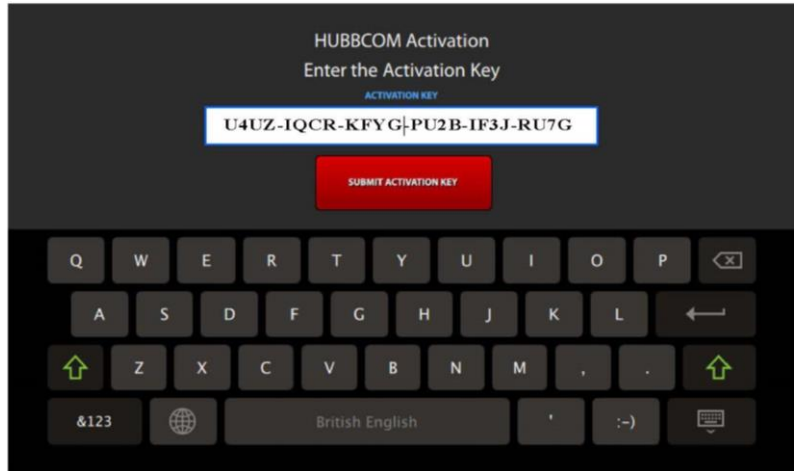

Figure 7. Device License Key Entered
4. Enter the device key provided on the device’s activation label (see Figure 6 and Figure 7).
5. Press the **SUBMIT ACTIVATION KEY** button on the screen (see Figure 7).